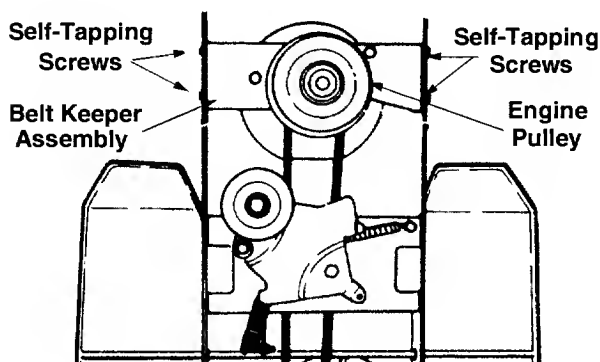

Figure 31
4. Remove the four self-tapping screws which hold the belt keeper assembly to the frame at the engine pulley. Push the belt keeper assembly forward, out of the way. See Figure 31.